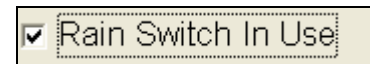

Figure 16.4.19A
2. If you are using a Rain Switch check the **Rain Switch In Use** box (Figure 16.4.19A).